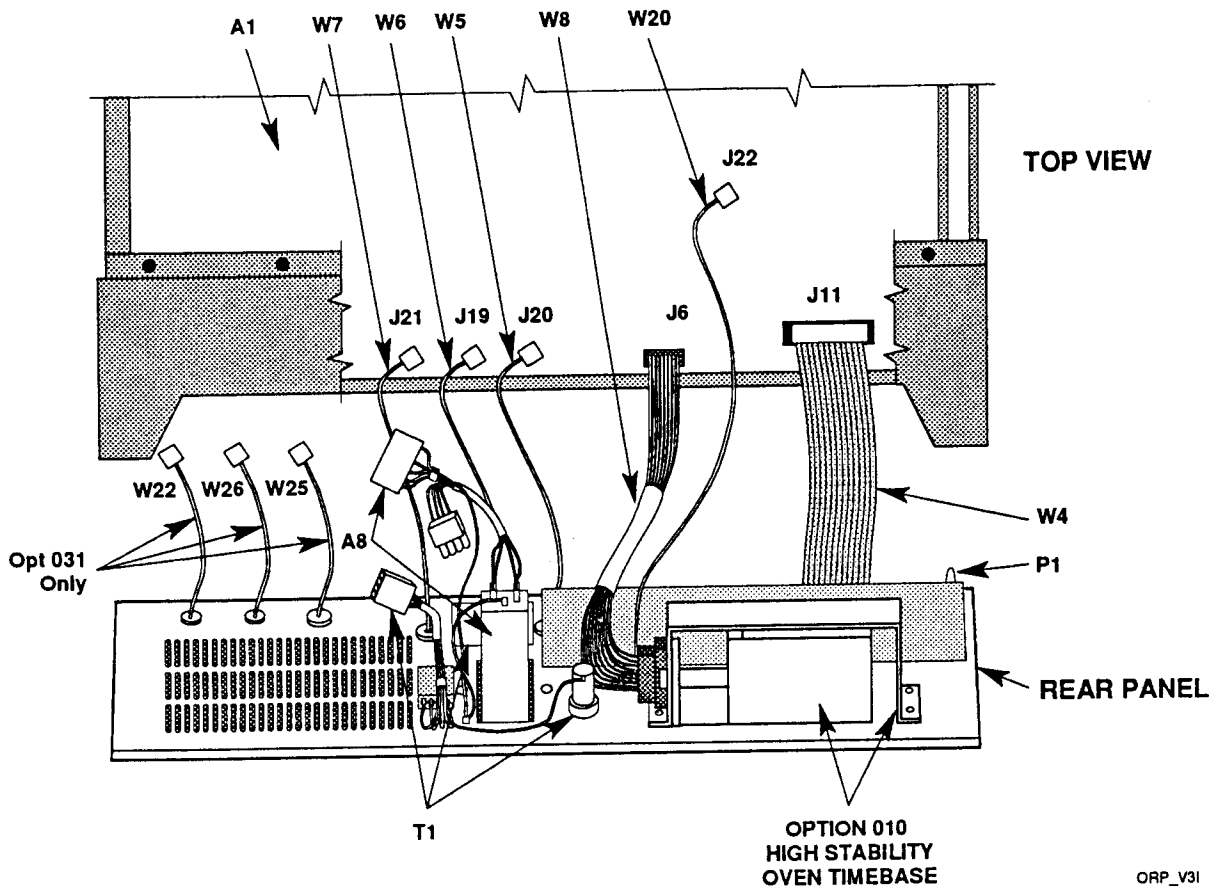

Figure 5-2. Option 010 Rear Panel Replacement
- 5 Pull the rear panel about three inches away from the instrument. (See *Figure 5-2*.)**